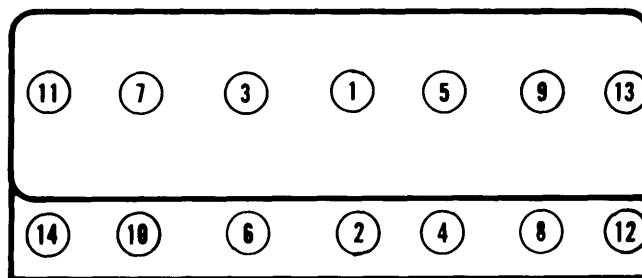

Fig. 1 Cylinder Head Bolt Tightening Sequence
4) To install, reverse removal procedure and note the following: Clean mating surfaces, use new gasket and tighten bolts as shown in (Fig. 1).